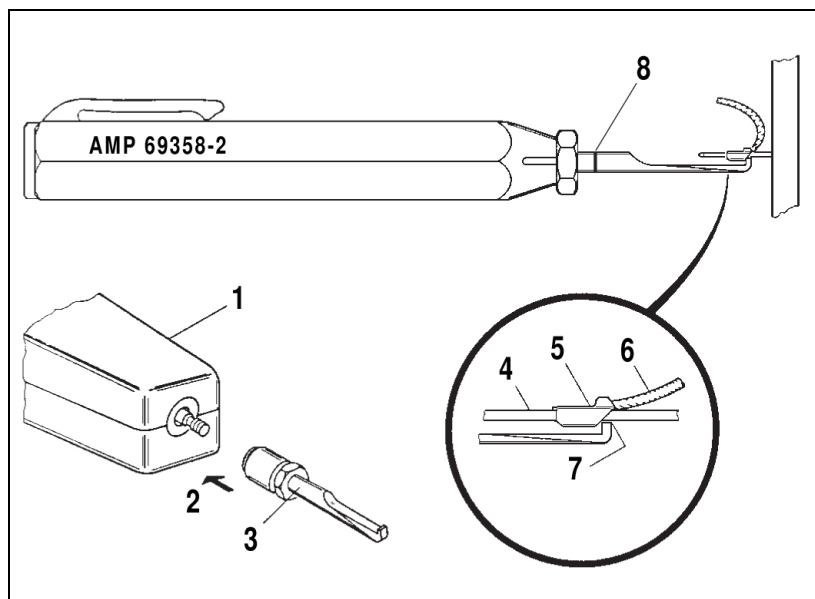

Fig. 29: Tool Qualification Test
- a. Hook tool squarley against end of Clip with tip engaging end of curls on clip (Fig. 29)
- b. Maintain alignment of tool with post and slowly pull until the indicator ring is in line with front of tool (Fig. 29).
- b. Hook tip squarely against ends of clip with tip engaging end of curls on clip (Fig. 29).
- c. Maintain alignment of gage with post and pull slowly, until gage reaches its maximum reading (Fig. 29). Gage must be set in "Lock" position to record maximum reading.